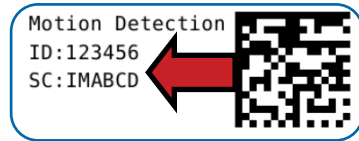

Figure 1
2. Find the Device ID. See Figure 1.